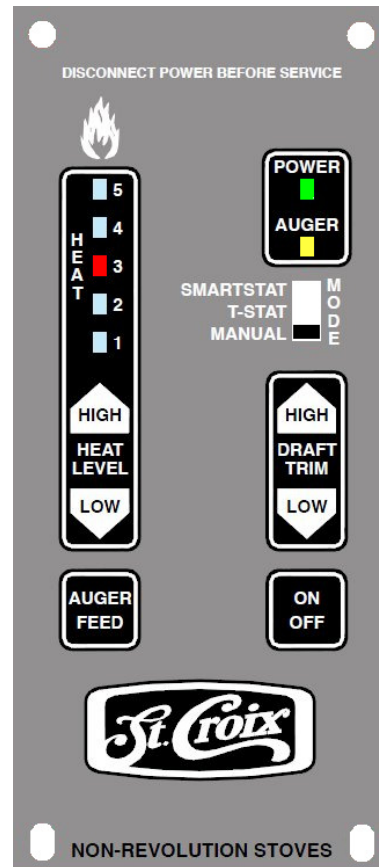

Figure 18
A closer look at the Control Board to the right in figure 18 will explain how the board works. There are essentially 4 buttons on the control board. Two of these buttons, the **Heat Level** and **Trim** Buttons, have a High/Low side to advance these settings up or down. There is a **Slide Switch** that controls the Thermostat Mode and an **LED Light** bar that indicates which of the 5 Heat Settings the Auburn is running on.
4. Close the door and push the On/Off button on the control board. (See figure 18 on page 26)